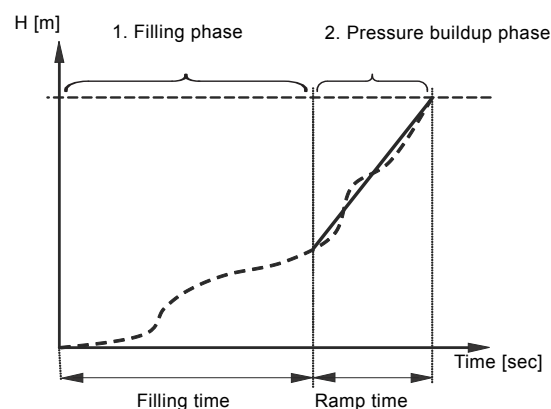

Fig. 7 Filling and pressure buildup phases
2. When the pressure sensor of the system detects that the pipework has been filled with water, the pressure is increased until it reaches the setpoint. See fig. 7.